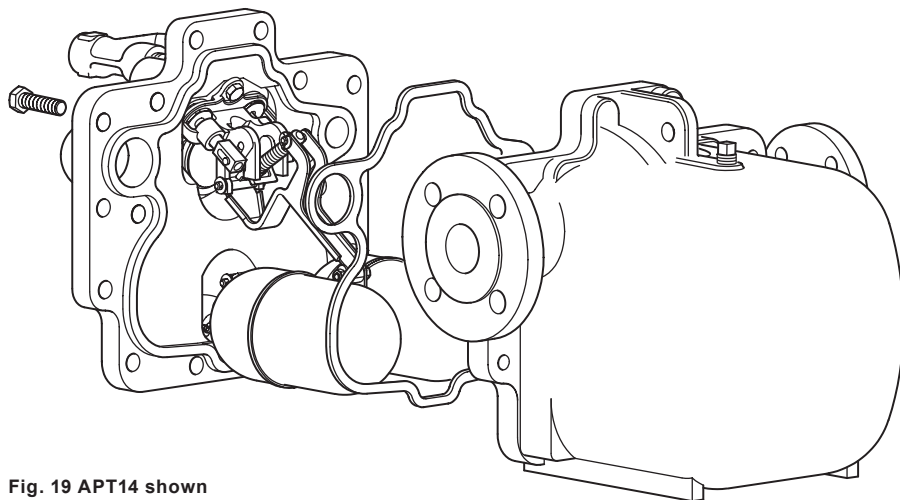

Fig. 19 APT14 shown
3. Carefully fit a new gasket (item 2) into the existing body (See Figure 19).